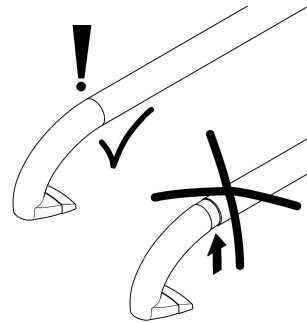

Fig. 4
- Only for H146: Make sure that the wall-fixing elements are fully inserted into the handle bar (Fig.4).